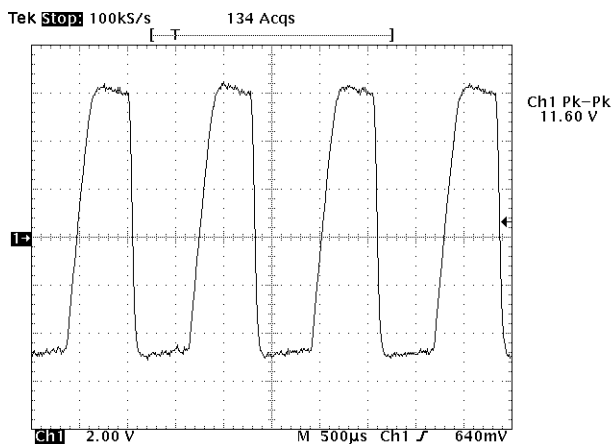
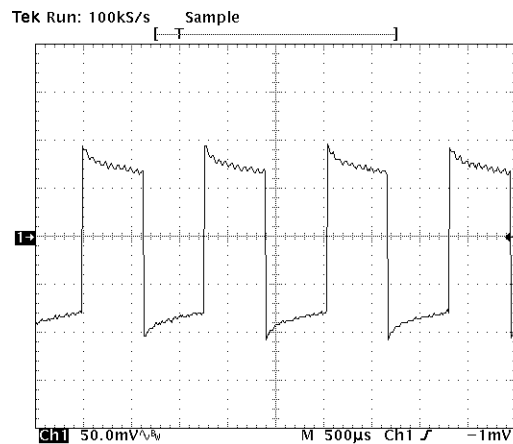

Figure 6-8. AAR#1, AAR #2
Figure 6-12: TP-12
6. Activate the self-test circuitry by connecting 24 VDC (power supply “A”), positive (+) to AAR #3, negative (-) to Faston 6. Connect the oscilloscope to AAR #1 and #2. Is a 12 V_{p-p} signal (approximately) present, as in Figure 6-8 below?
- B. Check for 784 Hz signal at TP-12, TP-13, TP-14 and TP-15, consecutively (as in Figures 6-12 through 6-15, respectively).
- (1) If the signal deviates from expected results at one test point but not the previous point, the components (or connections) between those two points are suspect: repair as necessary and continue.
- (2) Check output of signal transformer (AAR #1 and #2) for a 12 V_{p-p} signal (approximately), as in Figure 6-8.